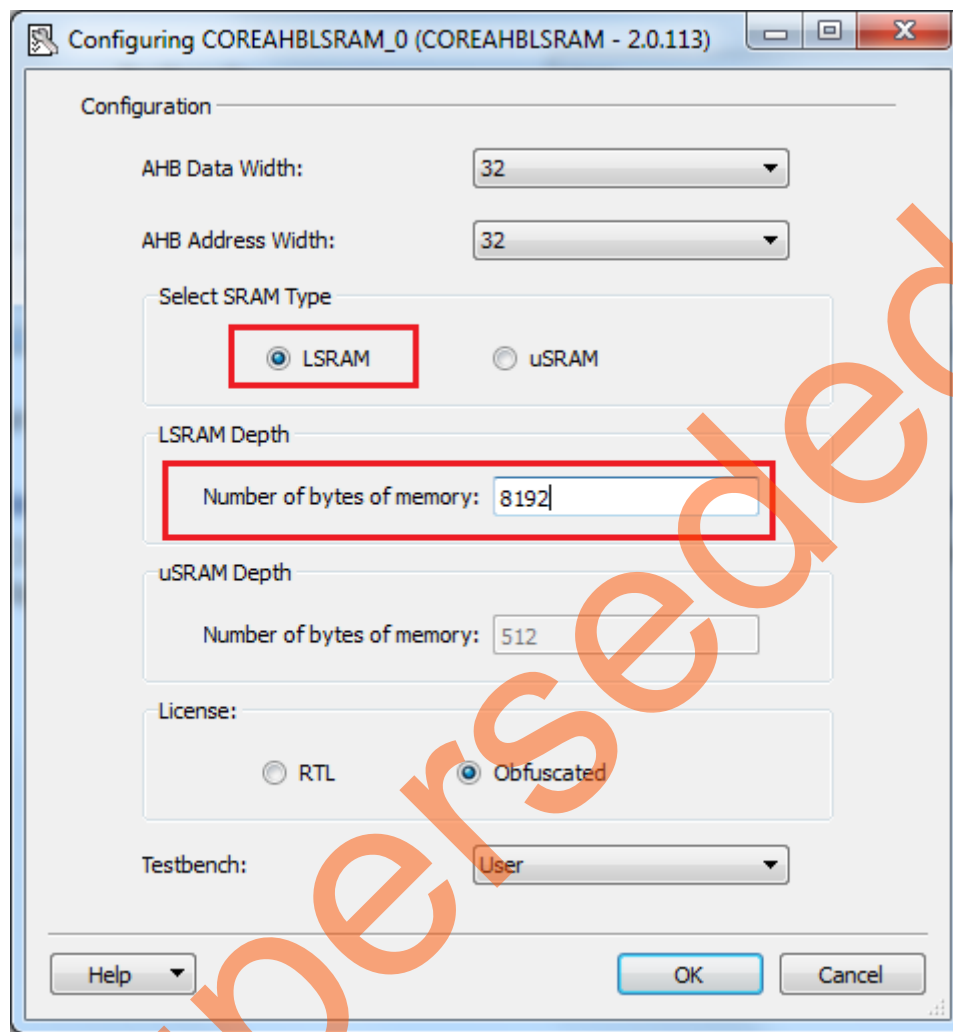

Figure 23 • Configuring COREAHBLSRAM_0
2. Double-click COREAHBLSRAM_0 to configure it. Figure 23 shows **Configuring COREAHBLSRAM_0** window.